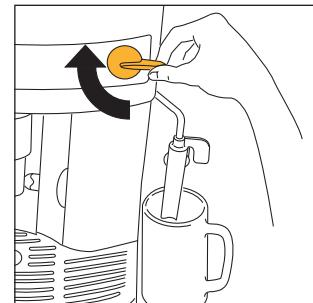
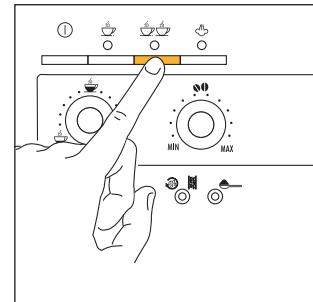
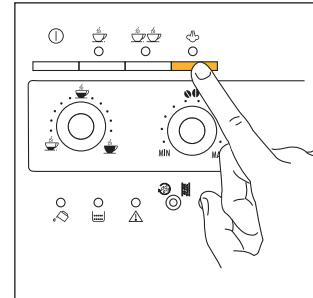
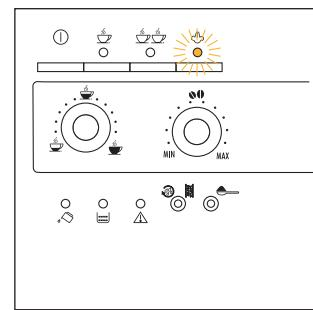

Fig.6
Fig.13
Fig.21
Fig.22
4. After few seconds, a little water will come out of the milk frother. When there is around 30cc in the cup, turn the steam knob half a turn clockwise (Fig.6) until it stops, so as to stop the water coming out.
- 5) Press the  button (Fig. 12) to make one cup of coffee or the  button (Fig. 13) to make 2 coffees. At this point the machine grinds the beans, runs a short pre-infusion cycle, a pause and then completes the delivery.
**NOTE 4:** while the machine is making the coffee, the delivery can be stopped at any time by pressing the  button (Fig. 12) or  button (Fig. 13), as previously selected.
**NOTE 5:** as soon as delivery is complete, to increase the quantity of coffee, simply press and hold the  button (Fig. 12) or  button (Fig. 13), as previously selected, until reaching the desired quantity (this operation must be performed within 3 seconds from the end of the delivery of the coffee from the spouts).
- To stop the flow of hot water, turn the knob all the way clockwise (Fig. 6) and return the milk frother to the original position towards the centre of the machine. (It is recommended to deliver hot water for no more than 2 minutes).
- Then press the steam button (Fig. 21). The  light (Fig. 22) starts flashing to indicate that the machine is heating up.
- Once having reached the desired temperature, stop the steam by turning the steam knob clockwise until it stops (Fig. 6) and then press the steam button (Fig. 21) to deactivate the steam function .
**NOTE 1:** *: immediately after having prepared the cappuccino, once having pressed the steam button  (Fig. 21) to deactivate the function, when pressing the  (Fig. 12) or  button (Fig. 13) to make coffee again, the machine is too hot to make coffee (the green  and  lights flash to indicate that the temperature is not suitable); simply wait around ten minutes for the machine to cool down a little.*